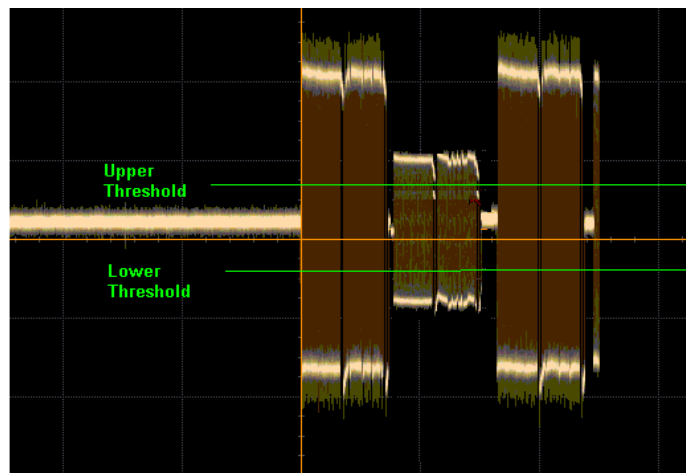

Figure 267 Correct Threshold set
- Upper Threshold/Lower Threshold** – The threshold level of signal must be set properly so that both upper and lower thresholds cross both the source and sink signals when the DUT is attached with a reference sink. The threshold levels are important parameters because they are used for edge detection when decoding a source command from a sink reply. Figure 267 and Figure 268 shows correct and incorrect threshold levels.